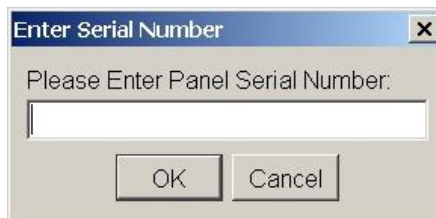

Figure 7 Enter serial number pop-up
- 2 Depending on how the software has been set up, you may be asked to enter the panel serial number. If prompted, enter the panel serial number and click **OK** (see Figure 7). If not, continue with step 3.